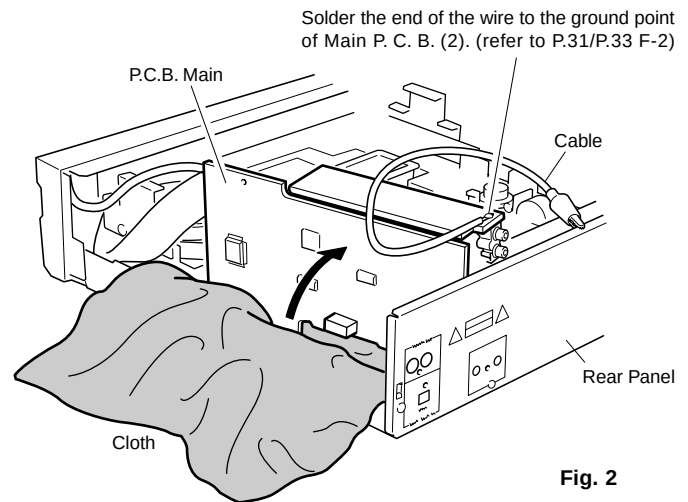

Fig. 2
- d. Remove 2 screws (②) and 1 plastic rivet on the Main P.C.B. as shown in Fig. 2.
- e. Spread a cloth over the Main Chassis as shown in Fig. 2.
- f. Put the Main P.C.B. on end as shown in Fig. 2.
- g. Connect the ground point of Main P.C.B. (2) to rear panel by using wire as shown in Fig. 2.